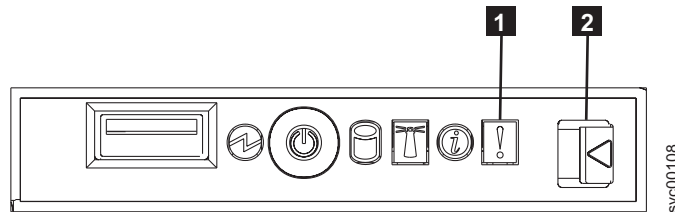

Figure 100. SAN Volume Controller 2145-8F4 operator-information panel
1. Is the Error LED, shown in Figure 100 on page 299, on the SAN Volume Controller 2145-8F2 or the SAN Volume Controller 2145-8F4 operator-information panel illuminated or flashing?